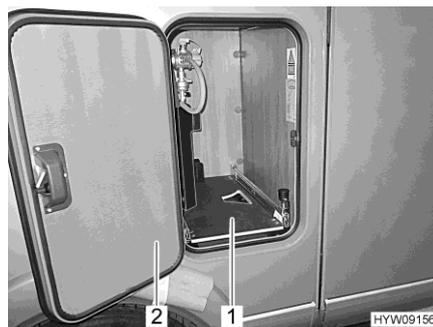

Fig. 81 Gas bottle compartment pull-out
- Open flap (Fig. 81,2) for the gas bottle compartment.
- Pull out the gas bottle compartment pull-out (Fig. 81,1) until the knob engages again. Now, the gas bottle compartment pull-out is locked in this position.